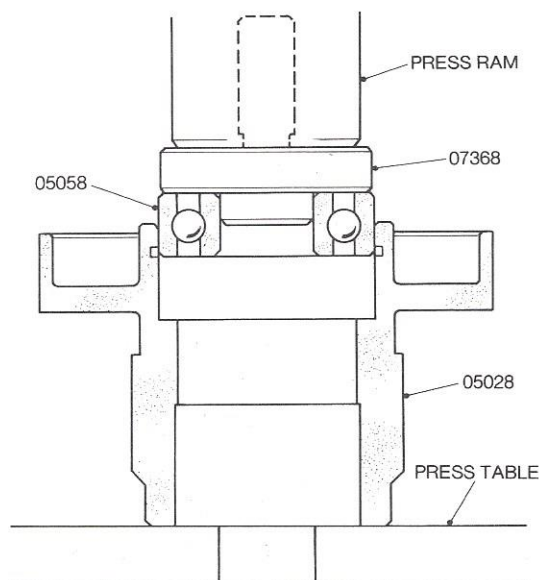

Figure 12 Assembly of the Crankshaft Housing Ball Bearing
- 9.2.1 Stand the Crankshaft Housing on its small end on the base of the press, locate the Ball Bearing squarely in the mouth of the bore and place Assembly Press Tool 07368 onto the Bearing. Centralise the assembly under the press ram and install the Bearing until it is pushed up against the shoulder in the Housing bore. See Figure 12.